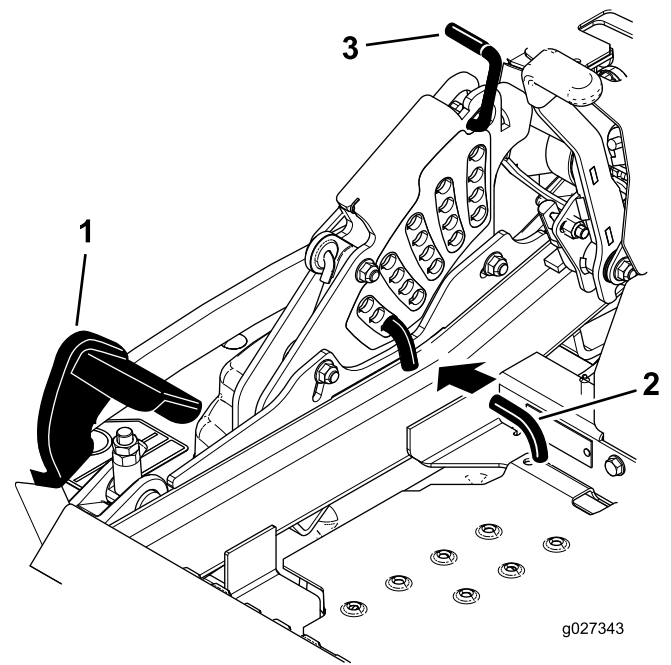

Figure 123
5. Push the deck-lift pedal all the way forward and the deck latches at the 14 cm (5-1/2 inch) transport position (Figure 123).